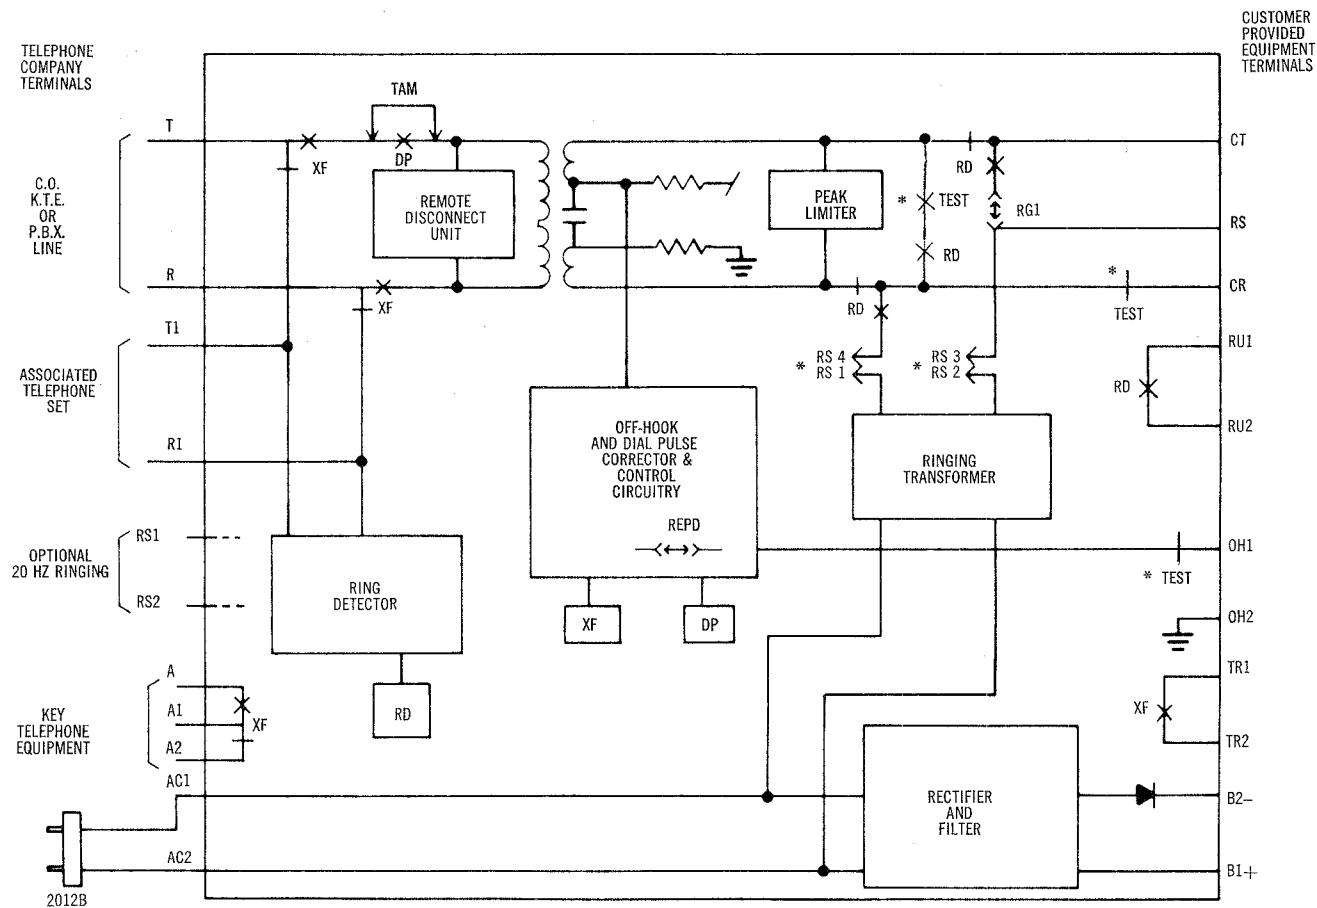

Fig. 3 — Functional Schematic of Voice Station Coupler
2.12 The terminal block for the connection of the telephone company equipment is located at the left side of the printed circuit board. The functional schematic is shown in Fig. 3 (Table B).
2.14 Answering an Incoming Call: The ring detector is activated (Fig. 3) when 20 Hz ringing is present on the line indicating an incoming call. The RD relay, part of the ring detector operates and releases in response to the ringing cycle (i.e., 2 seconds operated — 4 seconds released): The operation of relay RD causes a contact closure between terminals RU1 and RU2. It also causes 20 Hz or 60 Hz ringing voltage from the ringing transformer to be applied between terminals CR and CT or between terminals CR and RS, depending on whether or not the RGI strap is in place (Option G).